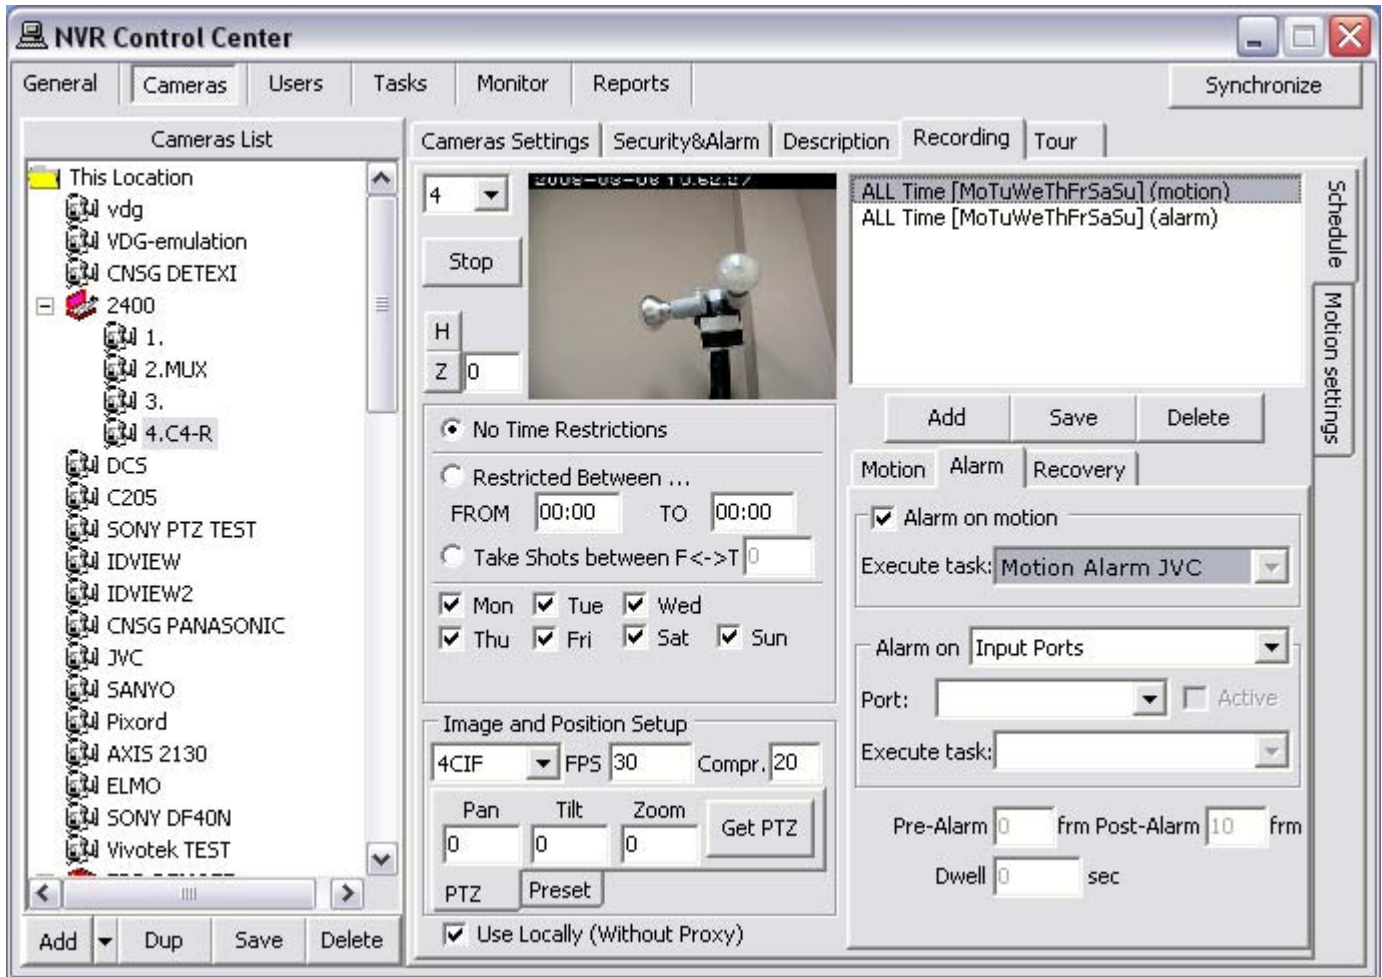

Fig 112. NVR Control Center — Recording — Schedule — Alarm
1. In the **NVR Control Center** — **Cameras** (Fig 112).